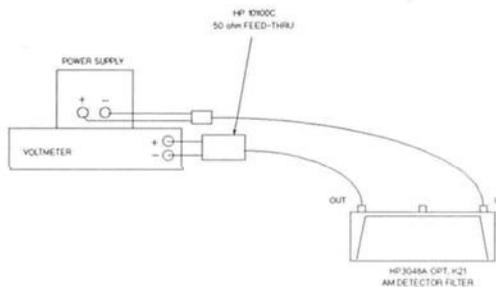

FIGURE 3-5.
1. Connect the equipment up as shown in Figure 3-5.